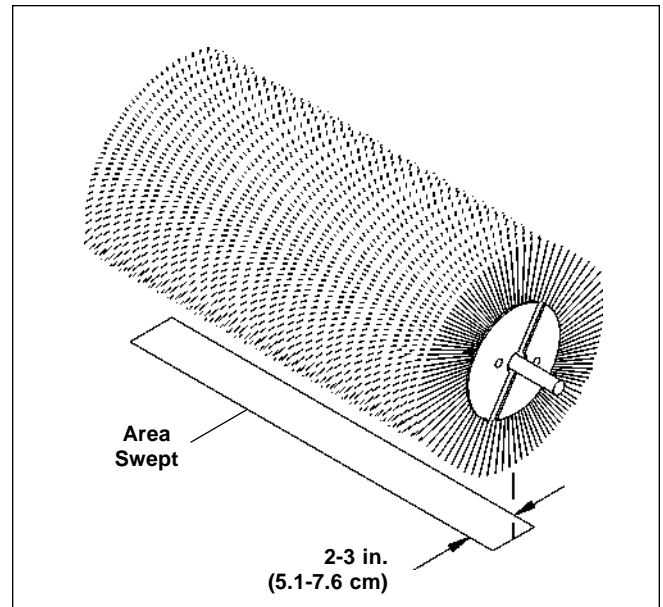

Figure 2
5. Raise the sweeper and check the spot that was swept. It should be an area 2-3 in. (5.1-7.6 cm) that runs the entire length of the brush (Figure 2).
6. If the area does not look like the one in Figure 2, adjust the brush height with the ratchet. Raise the brush head for a narrower pattern or lower it for a wider pattern.